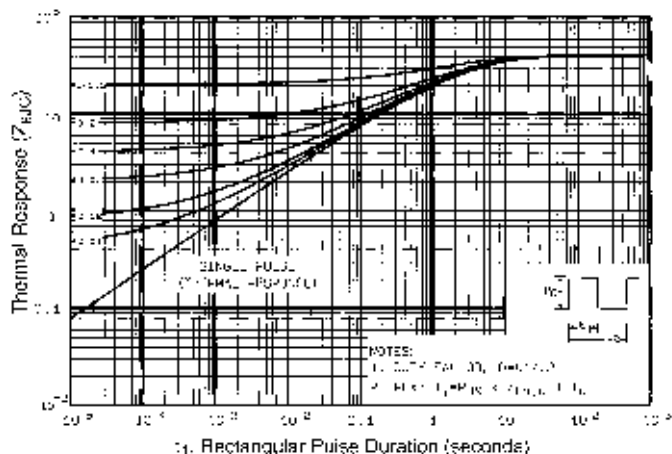

Fig 11. Maximum Effective Transient Thermal Impedance, Junction-to-Case
① Repetitive rating; pulse width limited by max. junction temperature (See Figure 11)
② $I_{SR}=1.0\text{A}$, $dI/dt=75\text{A}/\mu\text{s}$, $V_{GS}=V_{DS}=0\text{V}$, $T_J=150^\circ\text{C}$